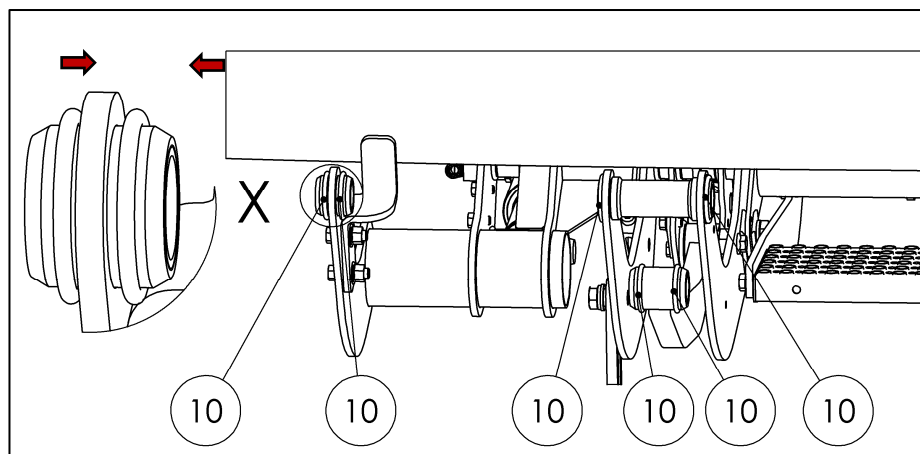

Fig. 49
- Thread 6 O-rings (accessories kit parts list – Item No. 10) onto the steel bushings (see Fig. 49).